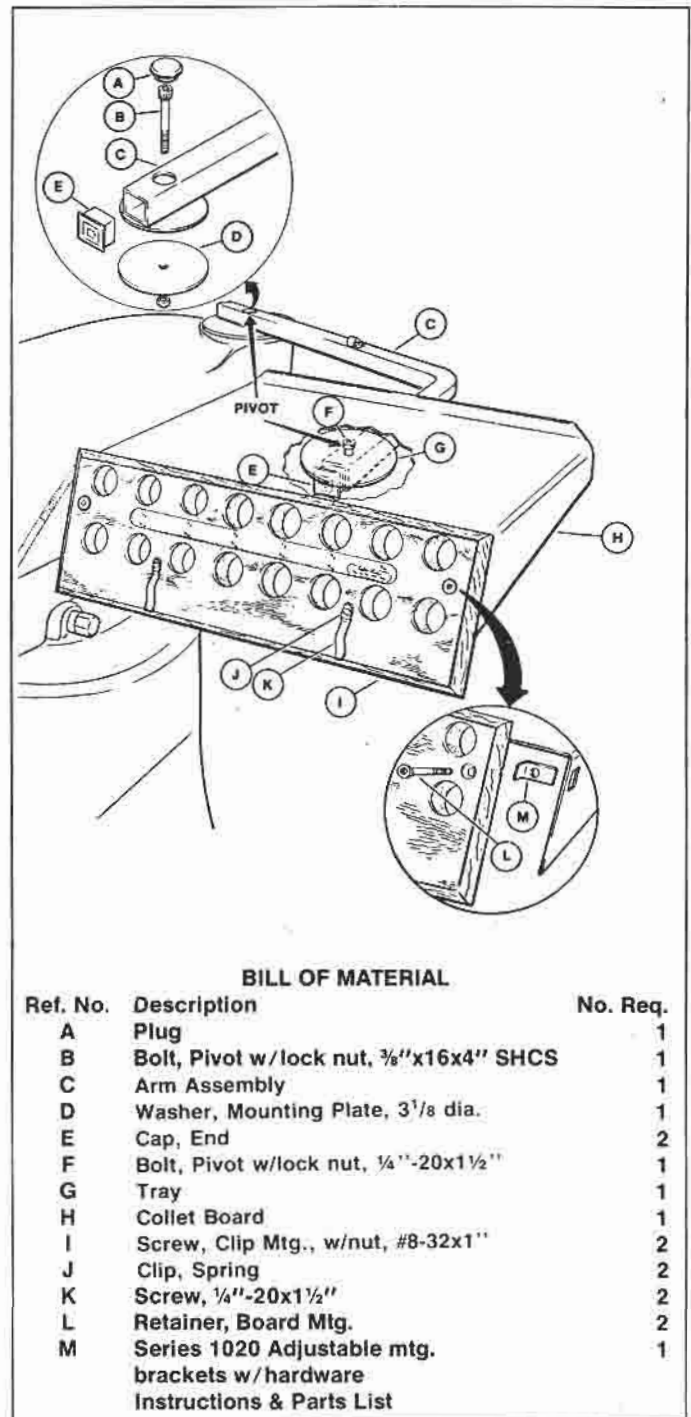

Figure 6-1. Column-Mounted Console Bracket Kit
This kit is installed on the ram or column of the machine tool. Install the kit as follows (refer to Figure 6-1):
1. Drill and tap hole adequate for the pivot bolt (B) at the mounting location as shown.
2. Attach the arm assembly (C) to the machine as shown in Figure 6.1.
3. Place the center of the tray support plate (G) and the center of the tray (H) over the hole in the arm assembly and assemble using the pivot bolt (F).
5. Attach the board mounting retainers (M) to the tray. Mount the collet board (I) to the tray as indicated in Figure 6-1. Attach spring clips (K) to collet board with spring mounting screws (J).
6. Attach hole plug (A) and end cap (E) as indicated in Figure 6-1.